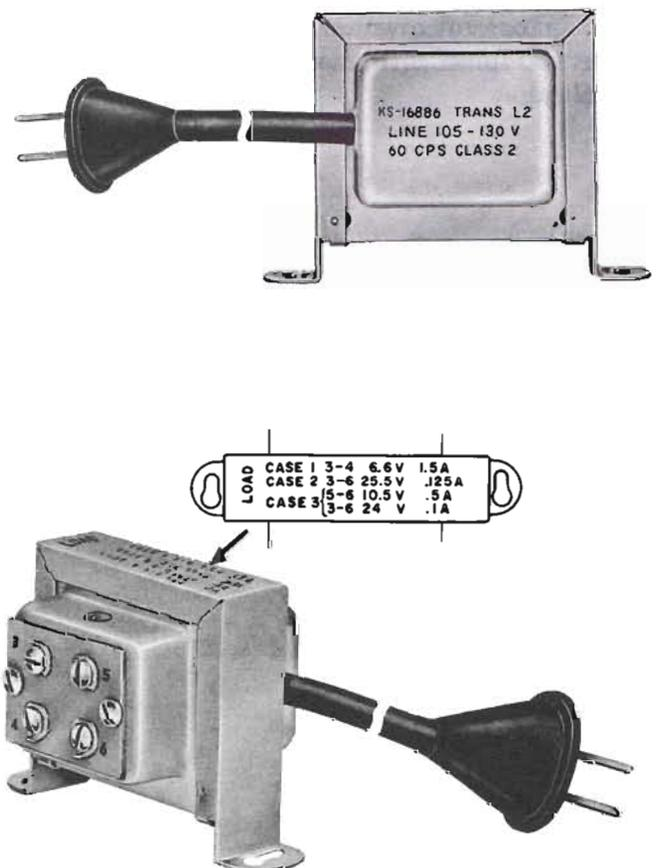

Fig. 5 — KS-16886, List 2 Transformer
7.01 The KS-16886, List 2 transformer (Fig. 5) is primarily intended as the centralized power supply for multiphone dial-light installations and home interphone systems requiring approximately 6 volts. It is capable of handling up